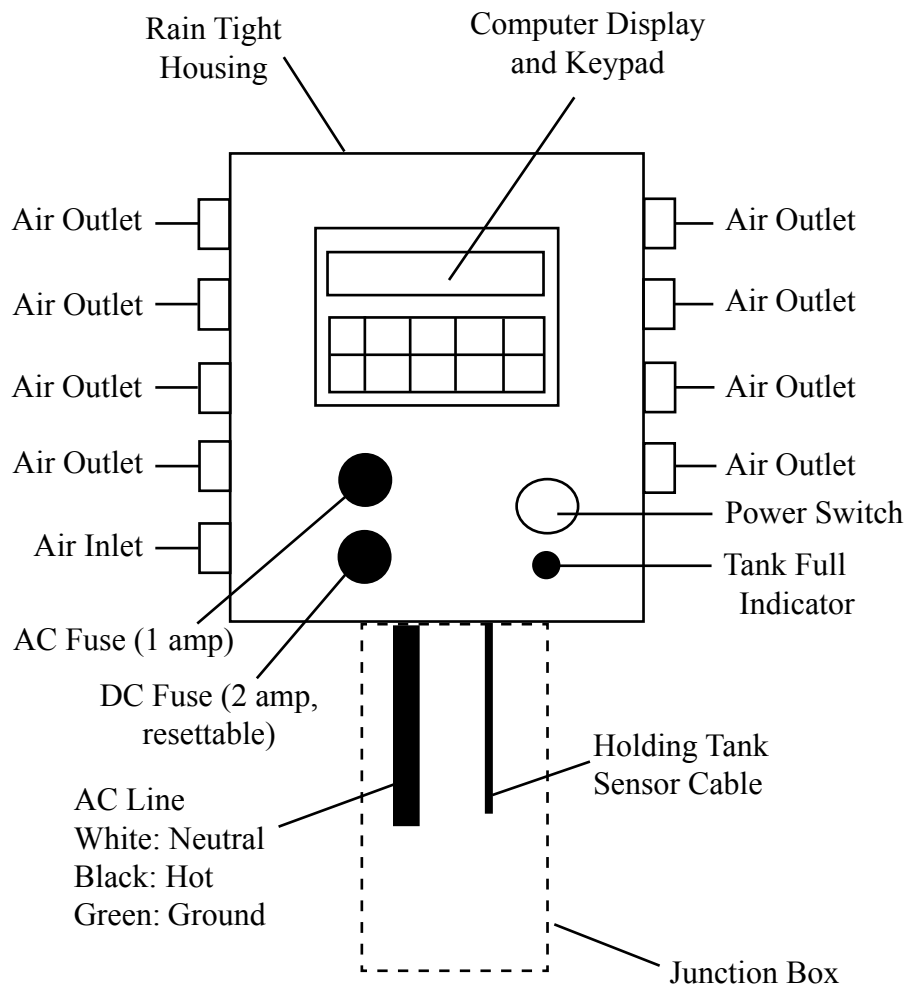

Figure 3
STEP 1. Mount programmable Controller Model 5500ES (Figure 3) in a vertical position near the air source, power source, and holding tank, if possible. **CAUTION:** The Model 5500ES is NOT intrinsically safe. If this controller must operate in a CLASS I area, use the XITECH Model 2550ES CLASS I Controller instead. Air supply needs to be free of WATER and OIL to have minimum maintenance.
STEP 2. Install holding tank shutoff assembly into holding tank (a 2” standard pipe inlet will be required in the holding tank). The level of product in the holding tank can be set by raising or lowering the liquid level sensor attached to the rod. Wire the sensor cable into the controller (Figure 3). **NOTE:** If additional signal cable is needed to position the holding tank assembly further away from the controller, use 18 gauge 2-conductor wire.
STEP 3. Attach power line from the AC Line to the controller (Figure 3). Turn on the controller power switch. If the red “Product Tank Full” light stays on, you have a problem with tank shutoff wiring. Turn off the power switch and re-check the tank shutoff wiring. If the light continues to stay on, call the factory.